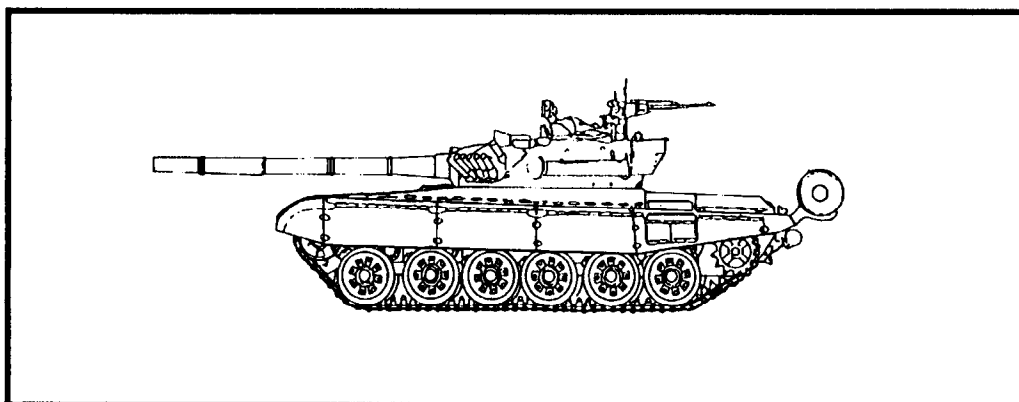

Figure F-3. T-72M1.
(3) *T-72M1* (Figure F-3). The T-72M1 is an improved version of the basic T-72. Visual differences include full track skirts, smoke grenade launchers, and no right-hand optic. Significant differences include a probable laser range finder, thicker upper glacis, thicker frontal turret armor, applique armor on the turret roof, and provisions for mounting reactive armor. Overall,